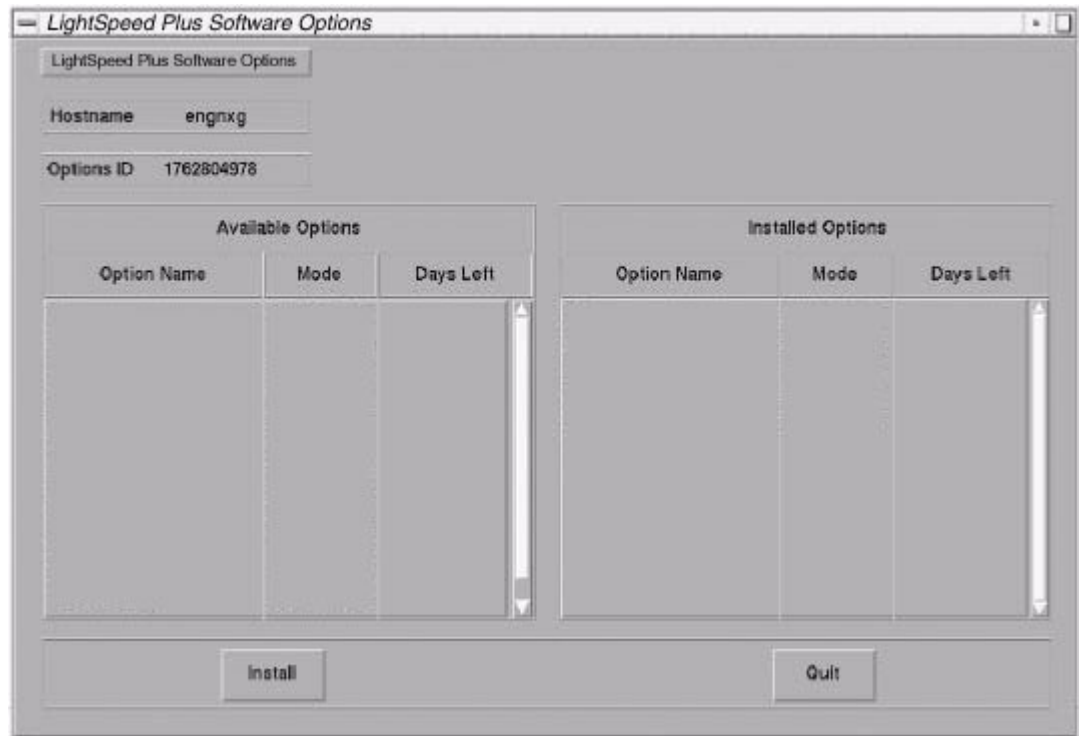

Figure 1-11 Software Options Screen
- 1.) On the Service Desktop, select TOOLBOX/UTILITIES -> INSTALL -> INSTALL OPTIONS. The Software Options Window appears (see Figure 1-11):
- 2.) Click on the INSTALL button. (see Figure 1-11).